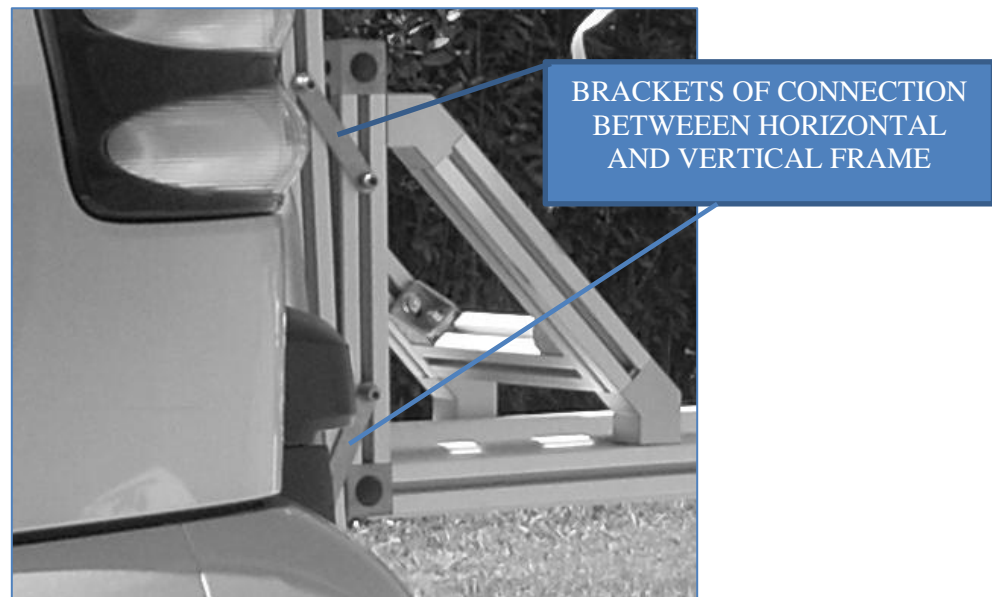

**Fig. 2-1 – Screw on the vertical frame**
1. Take the metal key (provided with the system) and unscrew the screw on the vertical frame (see **Errore. L'origine riferimento non è stata trovata.**), until the frame fits on to the hook of the vehicle. Then screw it again strongly keeping the frame vertical as much as possible (Fig. 2-1).